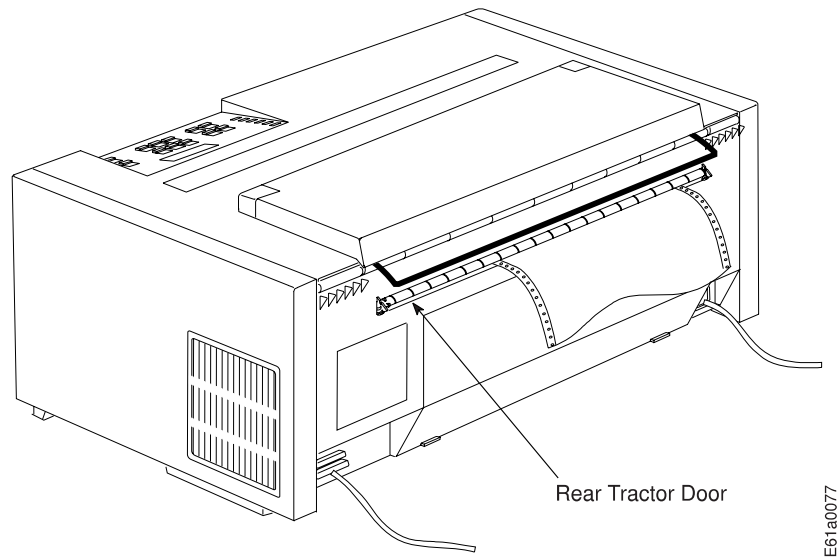

Figure 43. Forms Exiting Rear of Printer
22. Ensure the forms exit through the rear tractor door (see Figure 43).